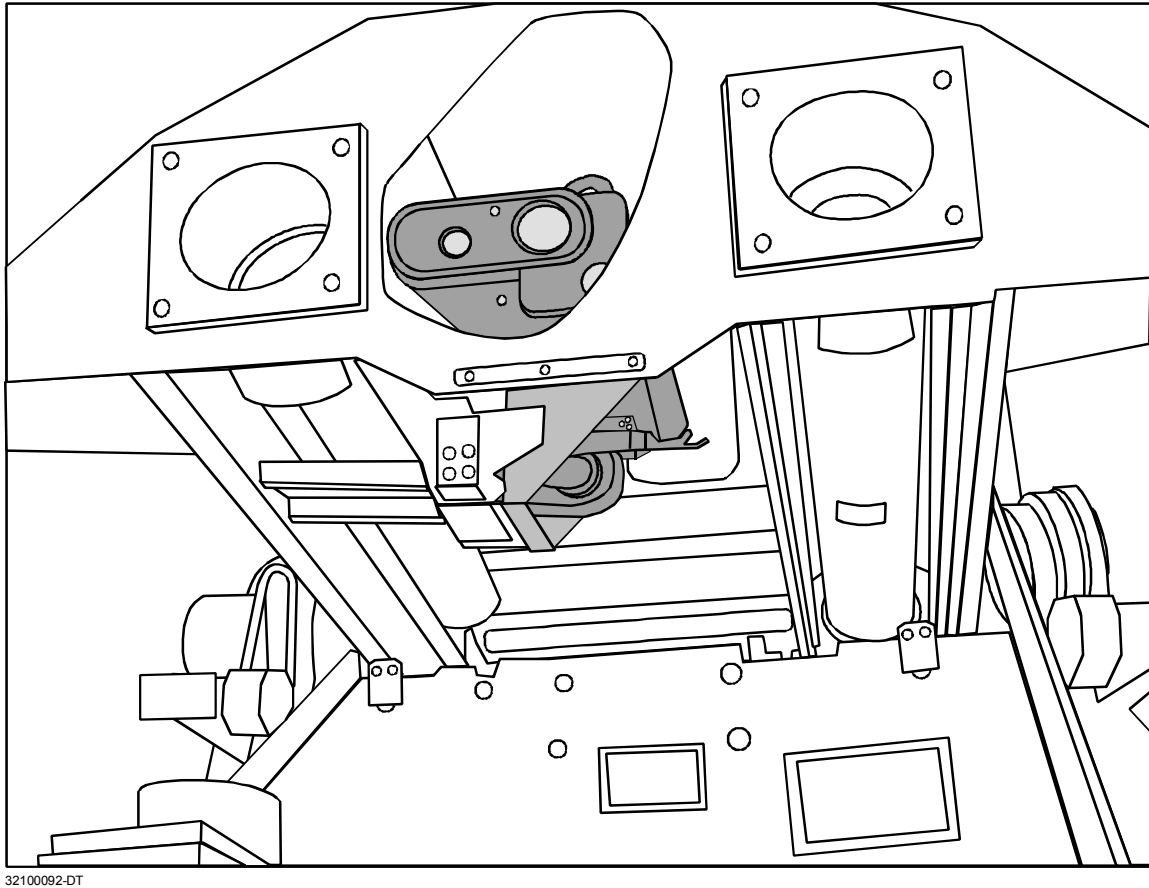

Figure 2-15. TOW Tracker Head.
- j. After matching the center bolt with the mounting hole, making sure the four (4) rubber latches on the adapter assembly are in line with the four (4) latching brackets on the KSI. Place the KSI securely on the adapter.
2.3.2.4 TOW Tracker Head (See Figure 2-15.)